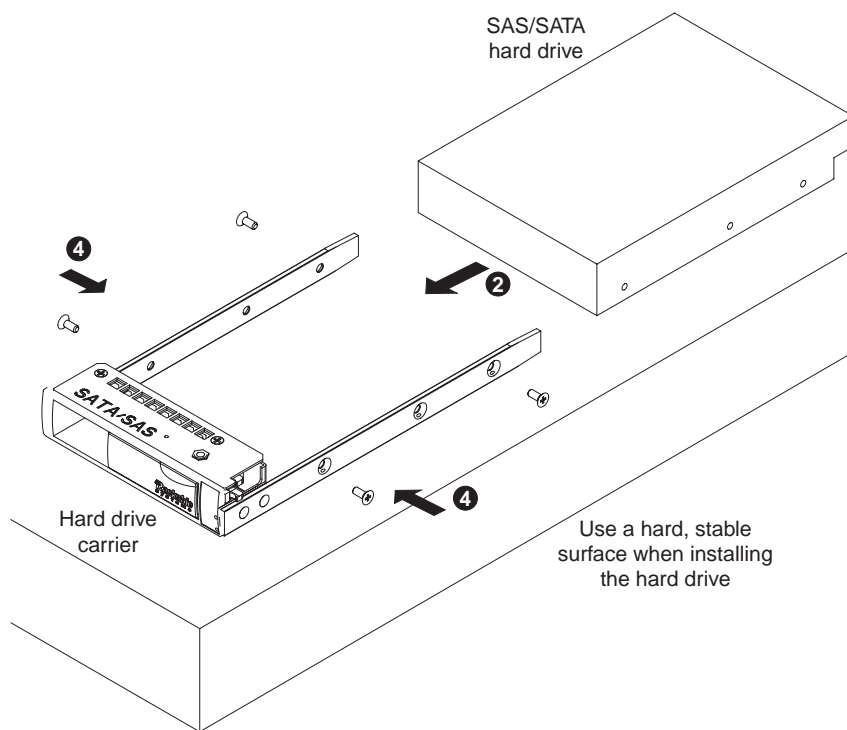

Figure 4-2 Inserting Hard Drive into Carrier
2. Slide the hard drive into the carrier with the printed circuit board side facing down (see Figure 4-2).
4. Secure the hard drive using all four screws (see Figure 4-2).